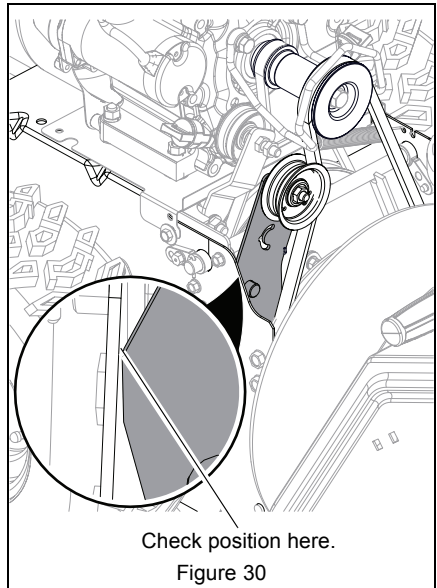

Figure 30
5. With the attachment clutch disengaged, make sure auger idler arm lightly touches the frame. See Figure 30.